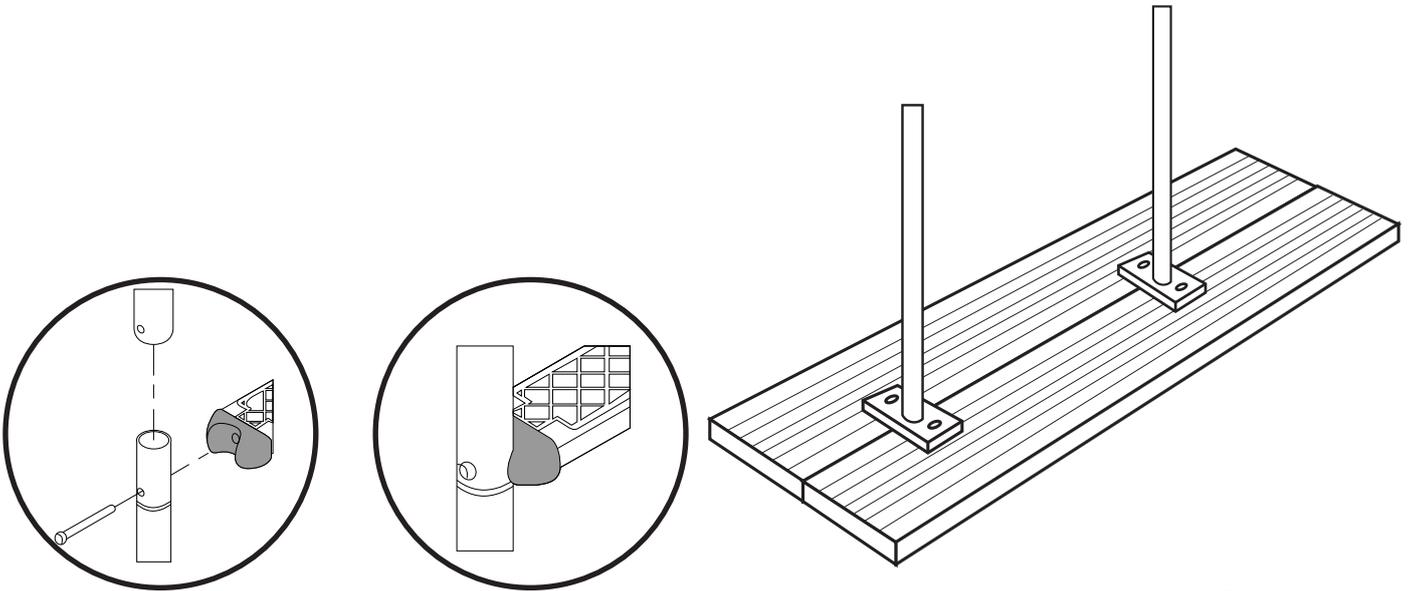

Fig. 21
- A.-** Assemble the upper (1) and lower (10) handrails using the press-fit method, securing them together with the steps (9). Attach the steps to the handrail using the provided screws (11), nuts (8), and washers (7). (See Fig. 21)
- B.-** Install the handrail stoppers (12) to prevent the ladder from damaging the pool.